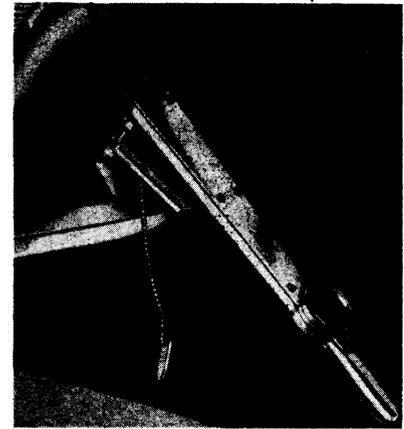

FIG. 5—Rear Band Adjustment
1. Remove the console and the right side heater duct flow director (Fig. 5) to expose the access hole, and then remove the cover from the hole. Part 11-2 may be helpful in removing the console.